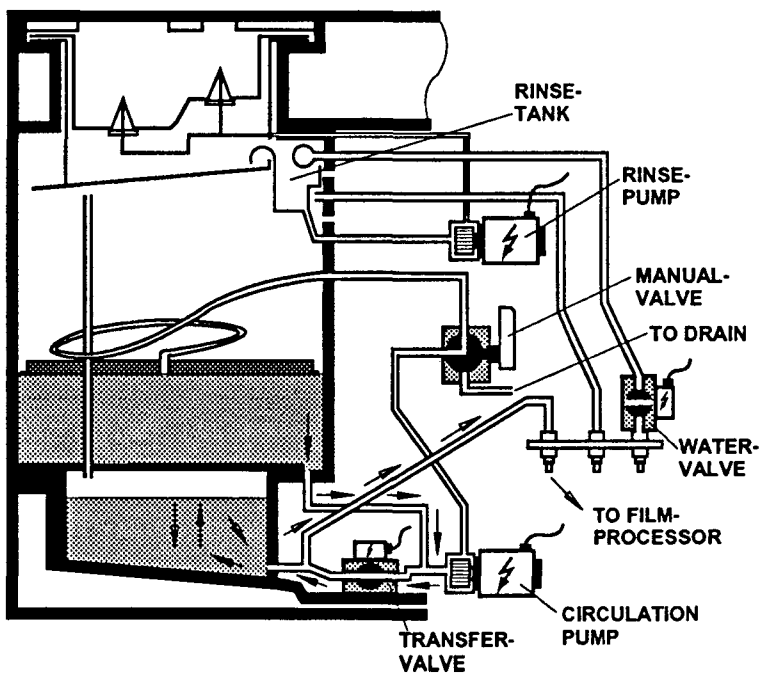

figure 6-9
- 15.** The TRANSFER VALVES open and the solution is ready for use (see figure 6-9).